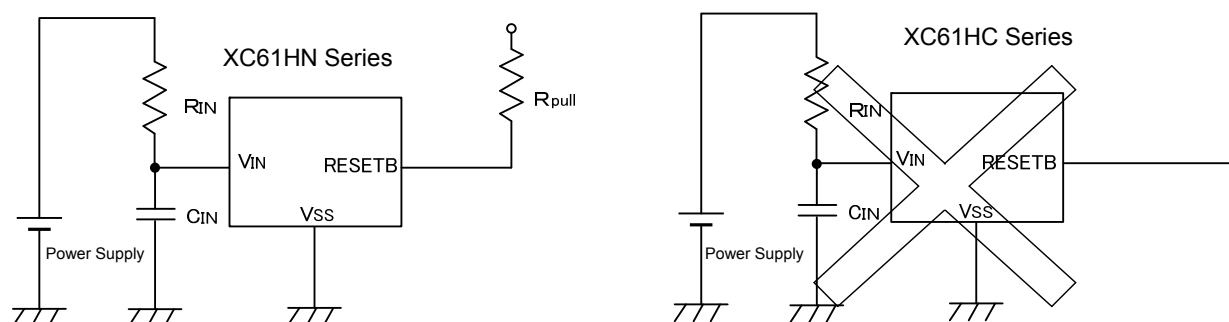

Figure 1 Use of input resistor  $R_{IN}$
2. When a resistor is connected between the  $V_{IN}$  pin and the power supply with CMOS output configurations, irregular oscillation may occur as a result of voltage drops at  $R_{IN}$  if load current ( $I_{OUT}$ ) exists. It is therefore recommend that no resistor be added. (refer to Figure 1 below)
4. If a resistor ( $R_{IN}$ ) must be used, then please use with as small a level of input impedance as possible in order to control the occurrences of oscillation as described above. Further, please ensure that  $R_{IN}$  is less than  $10k\Omega$  and that  $C_{IN}$  is more than  $0.1 \mu F$ , please test with the actual device. However, N-ch open drain output only. (Figure 1).